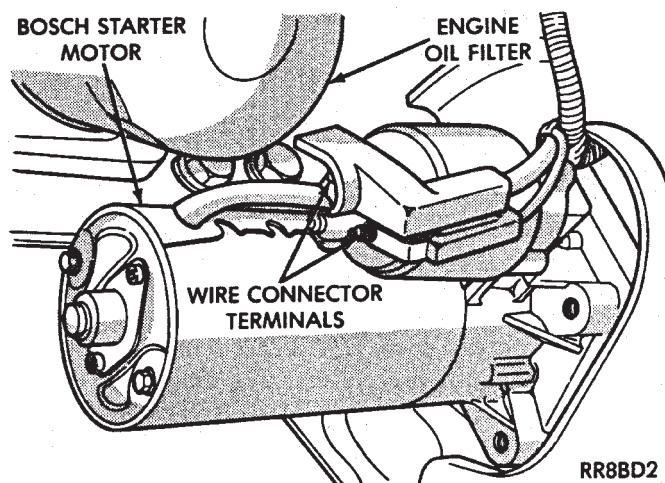
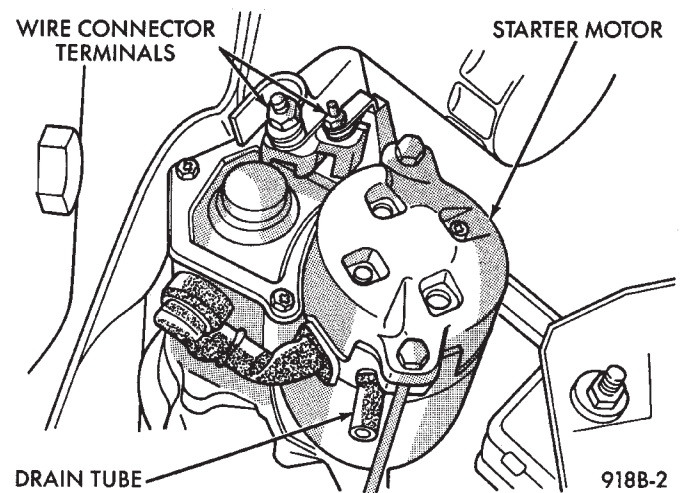

Fig. 5 Wire Terminal Connections—Bosch Starter
Fig. 6 Wire Terminal Connections—3.0L Engine—Nippondenso Starter
(3) Remove two wire connector terminal nuts and remove connector (Bosch, Fig. 5) (Nippondenso, Fig. 6 or 7).